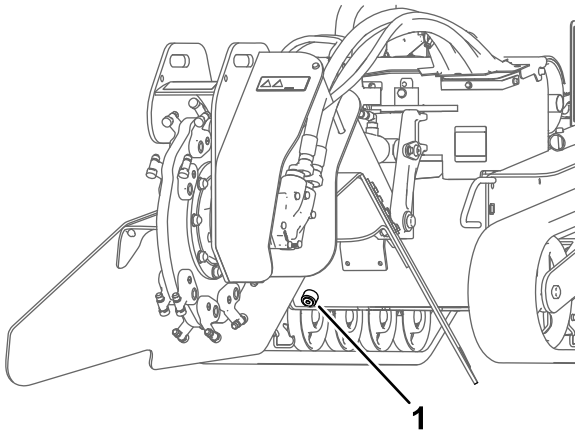

Figure 60
7. Remove the hydraulic tank drain plug and allow the fluid to drain into the pan (Figure 60).